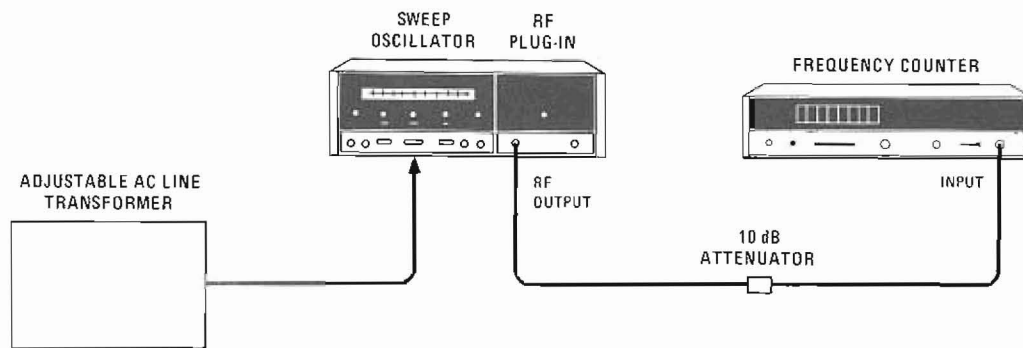

Figure 4-2. Frequency Stability Test Setup
- b. Connect equipment as shown in Figure 4-2. Set adjustable line voltage transformer to 115 Vac. Set 8620A LINE switch to ON; press CW pushbutton. Allow 30 minutes warm up time.